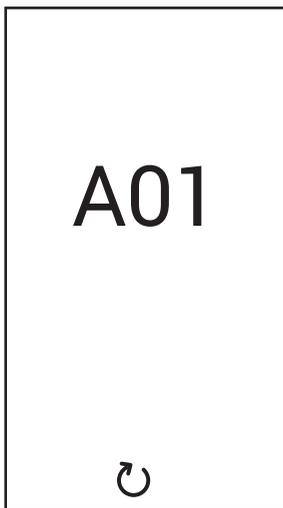

fig. 5
**A-type fault (fig. 5):** To unlock the boiler in the presence of this type of fault, press the button  until the message “Confirm?” appears. Then confirm with the button .